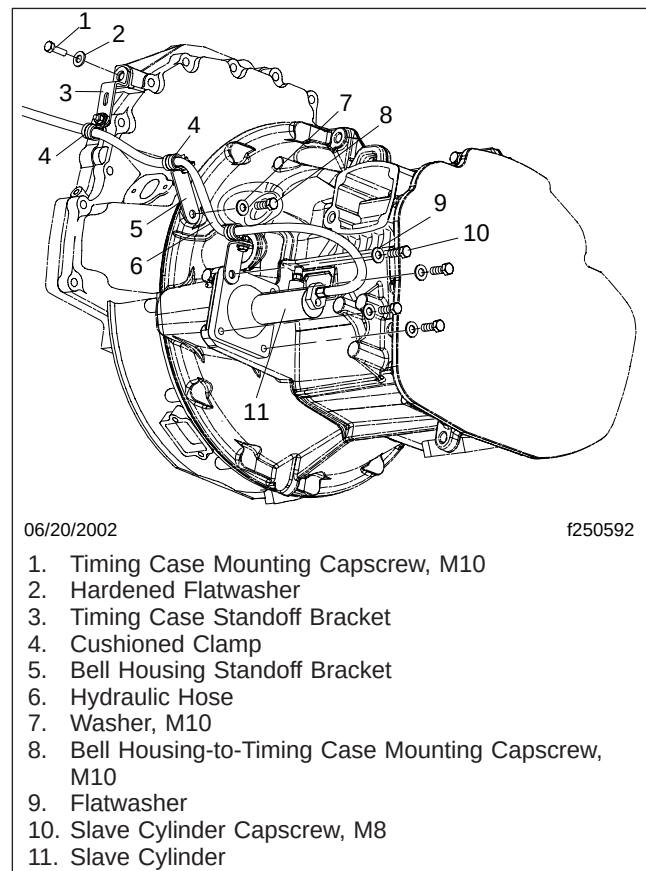

Fig. 3, Clutch Slave Cylinder
3. Using a flat-head screwdriver, remove the quick-disconnect clamp that attaches the hydraulic hose to the slave cylinder. Retain the clamp for later installation. See Fig. 3.